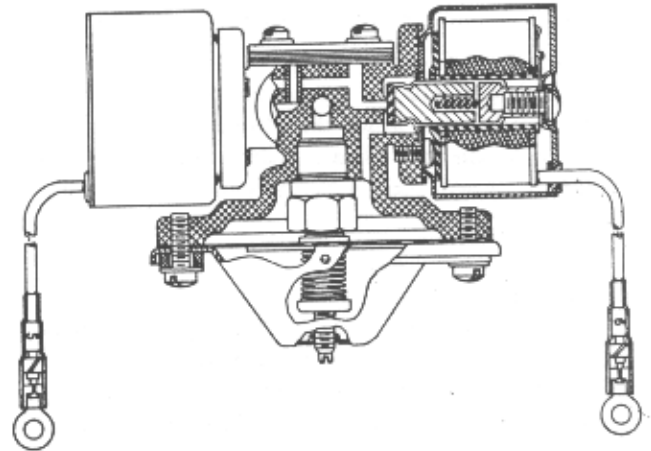

Figure 18—Fuel Control Valve (Sectional View)
1. Fuel flows from the safety valve to the fuel control valve (Figure 18) where it enters the pressure regulator. A diaphragm in the regulator maintains a one pound per square inch fuel pressure within the valve for any given inlet pressure between the limits of 1 to 15 pounds per square inch.